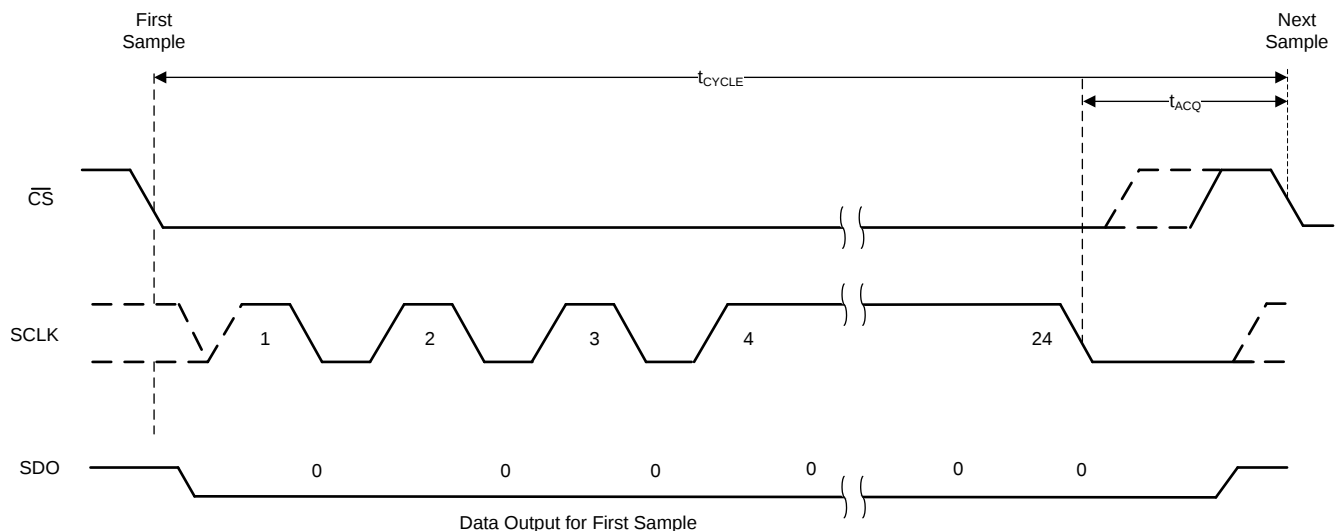
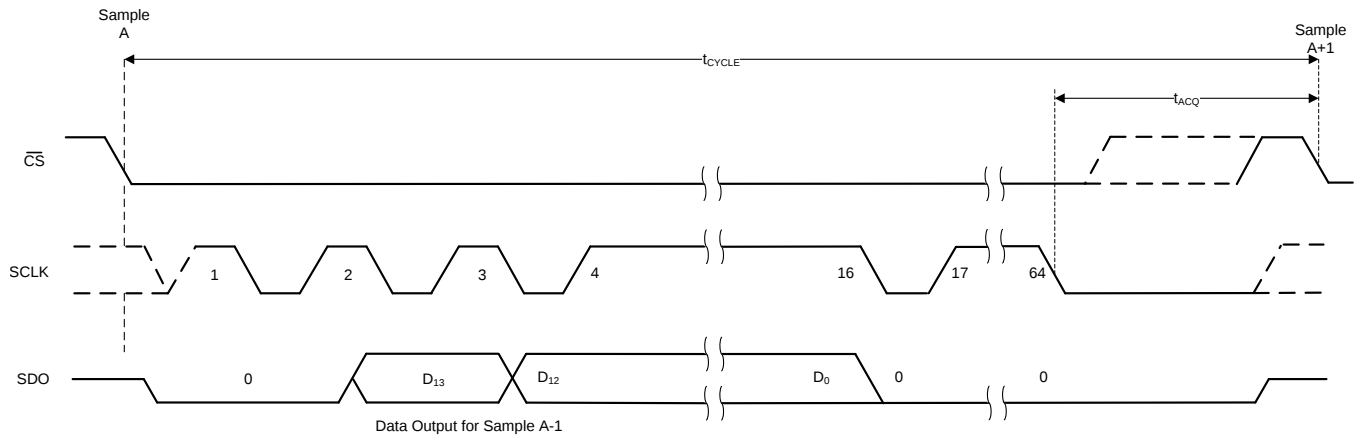

Figure 38. Timing for Offset Calibration on Power-Up
Figure 39. Timing for Offset Calibration During Normal Operation
The host controller must provide a serial transfer frame as described in Figure 38 or in Figure 39 to enter the OFFCAL state.
If the host controller starts the offset calibration process but then pulls the $\overline{CS}$ pin high before providing 24 SCLKs, then the offset calibration process is aborted and the device enters the ACQ state. Figure 38 and Table 3 provide the timing for offset calibration on power-up.
(1) In addition to the timing specifications of Figure 38 and Table 3, the timing specifications described in Figure 2 and the Timing Requirements table are also applicable for offset calibration on power-up.
If the host controller provides more than 18 SCLKs but pulls the $\overline{CS}$ high before providing 64 SCLKs, then the offset calibration process is aborted and the device enters the ACQ state. Figure 39 and Table 4 provide the timing for offset calibration during normal operation.
(1) In addition to the timing specifications of Figure 39 and Table 4, the timing specifications described in Figure 2 and the Timing Requirements table are also applicable for offset calibration during normal operation.